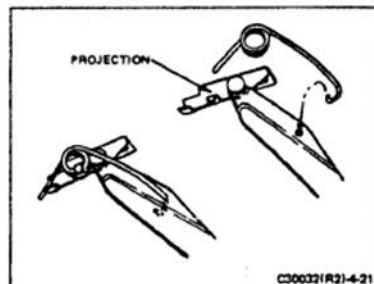

FIGURE 4-21 ERECTING LINK SPRING INSTALLATION
1. If the erecting link is undamaged but a new spring is needed, refer to Figure 4-21. Note that the coiled portion of the spring snaps over a small projection on the link assembly.